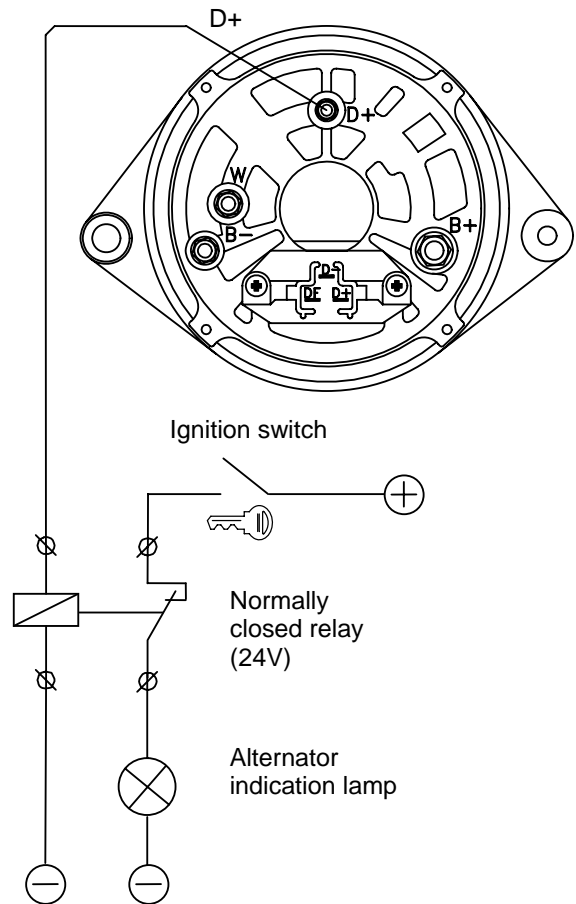

Figure 10: Connection of an alternator indication lamp (Alpha alternator model 24/95C only)
- For Alpha alternator model 24/95C only: see figure 10